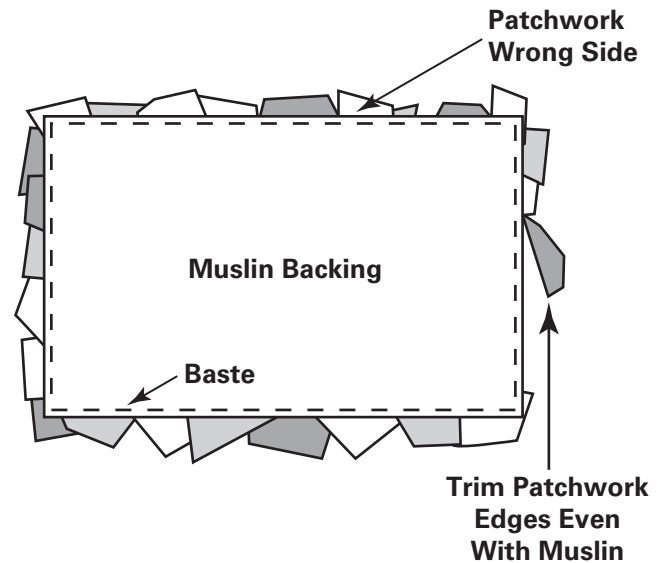

Fig. 9-5
7. Turn the muslin rectangle over with the patchwork side down. Baste close to the edges of the muslin through all layers. Trim the patchwork edges even with the muslin. (Fig. 9-5)